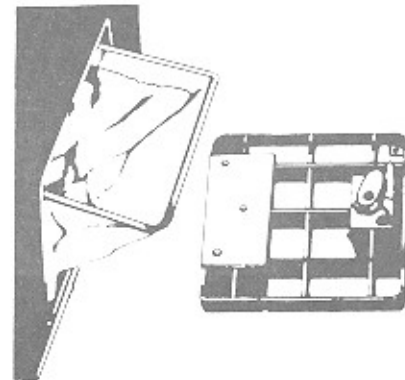

Figure 3-5. Cash Bag Removal
1. Unlock the cash bag door and pull the door away from the cabinet (see figure 3-5).